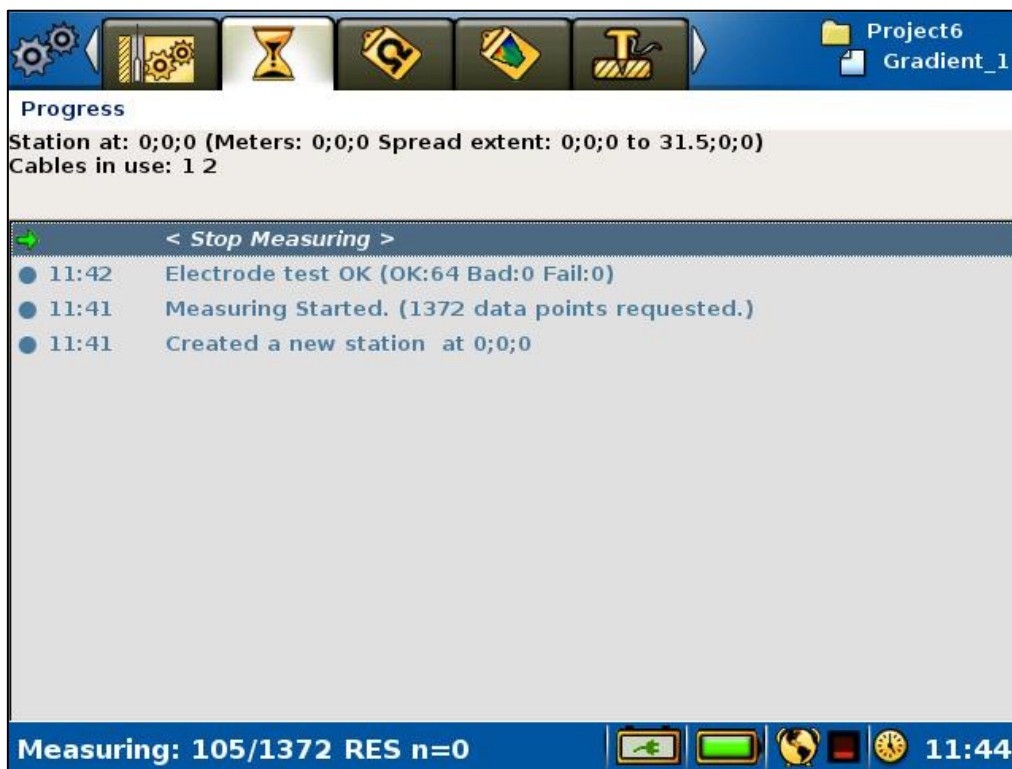

Figure 61 Progress Page
The measuring progress is shown on the “Measure/Progress” Page (Figure 61).
- Move the highlight to the <Stop Measuring> row (Figure 61)